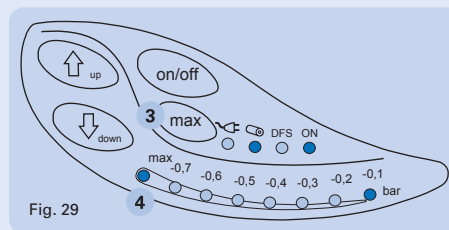

Fig. 29
- If you require the maximum vacuum quickly, press the 'max' button (fig. 29 (3)). You can also set the maximum vacuum by pressing the 'up' button several times.
- The preselection of the maximum vacuum is signalized via a red LED for 2 seconds (fig. 29 (4)).